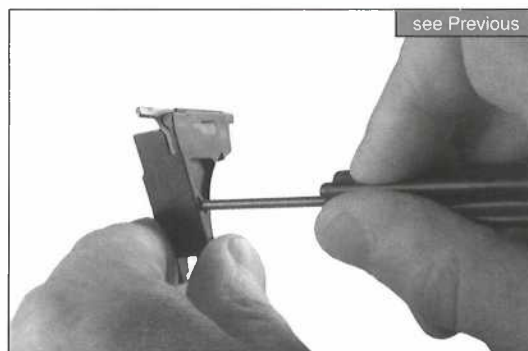

Fig. 78
- Remove the connector by pushing the pin punch all the way through the hole provided on the opposite side of the trigger mechanism housing.(Fig. 78)